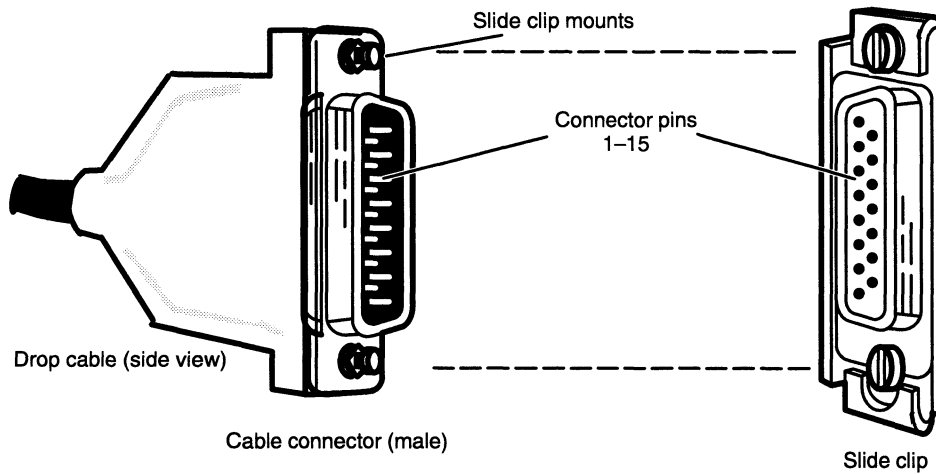

Figure 4-38 Aligning Slide Clip Mounts with a LAN Connector
3. Align the connector pins, clip mounts, and D-shaped bevels as shown in Figure 4-38 before gently pushing the cable connector completely over the connector. Make certain the slide clip has not hindered a secure connection.